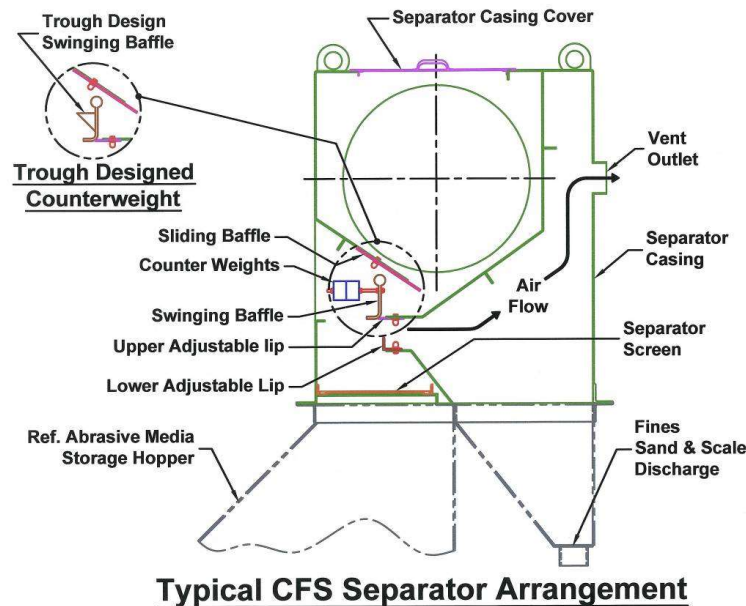

Figure 5-16
- f. The following are typical components found in a CFS separator with upper screw conveyor reclaim as shown in Figure 5-16.